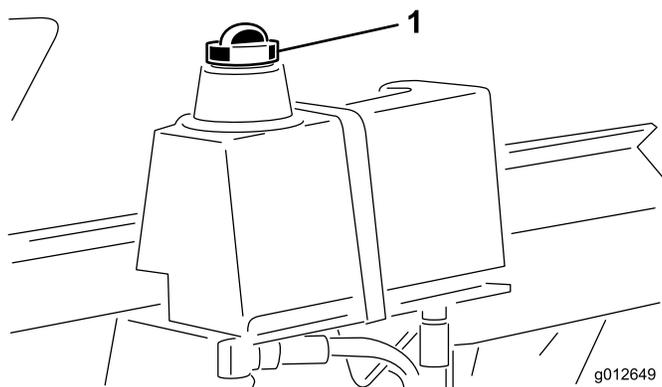

Figure 27
2. Remove the fitting from bottom of hydraulic reservoir and let the hydraulic fluid flow into drain pan (Figure 27). Reinstall and tighten fitting when hydraulic fluid stops draining.